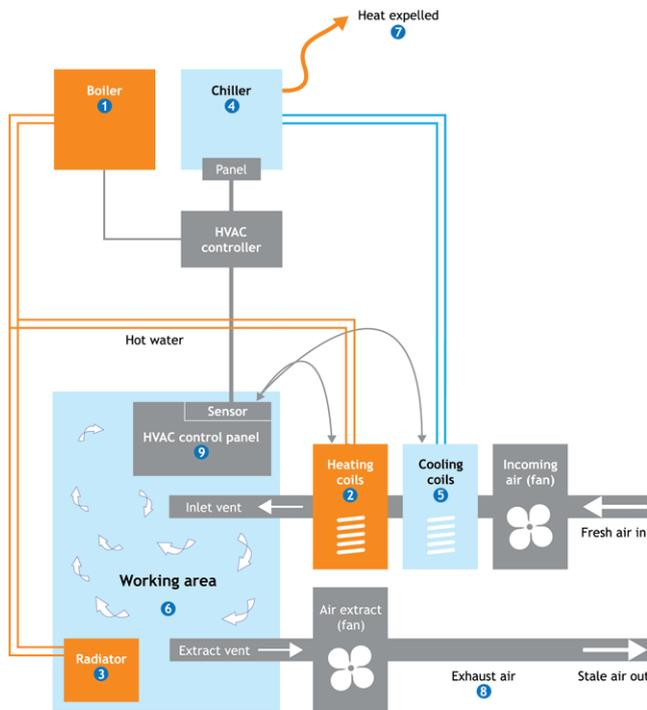

Figure 1: A centralised piped fluid HVAC system.
An example of a centralised piped fluid system is shown in Figure 1. The system consists of the following equipment: boiler, chiller, heat and cooling coils, pumps, fans and control systems. In some climates a system may also include humidifiers or dehumidifiers.
- A boiler or hot water heater that creates hot water that is pumped to radiators that heat the air – as shown in Figure 1.
- Chillers that chill water pumped to cooling coils drawing the heat out of the air as it is blown over them in the air ducts – as shown in Figure 1. A separate condenser or cooling tower removes the accumulated heat from the water as part of the refrigeration cycle in the chiller.